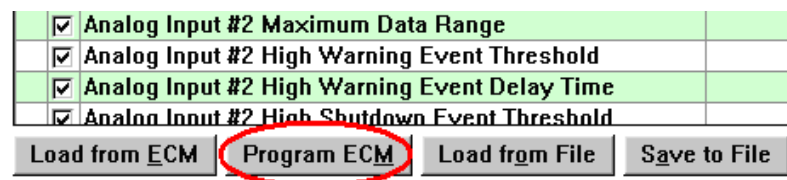

Figure 17.7 – Program ECM
7. After any selection changes are completed, click "Program ECM" from the bottom of the ECM Replacement screen to load the file into the EMCP 4. See Figure 17.7.